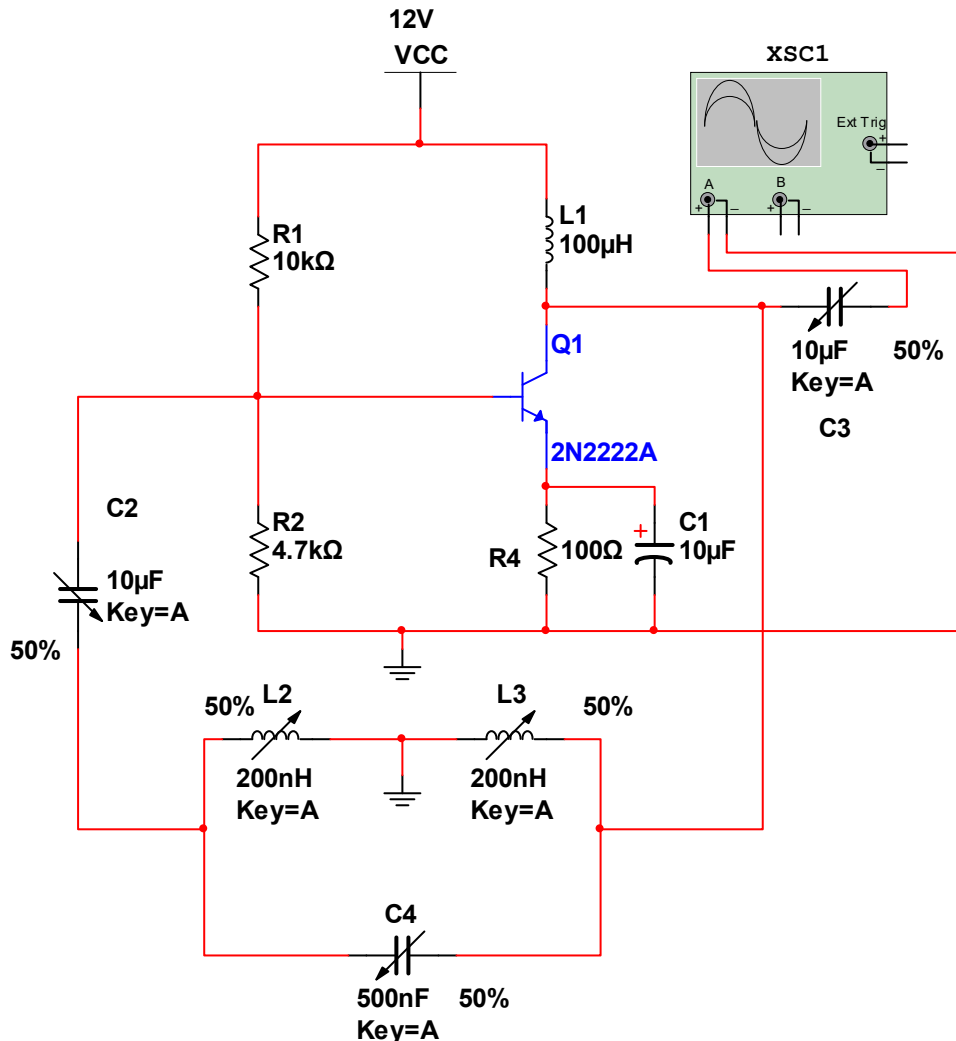

Figure 12.3: Hartley Oscillator
- ❖ Connect the components as shown in Figure 12.3